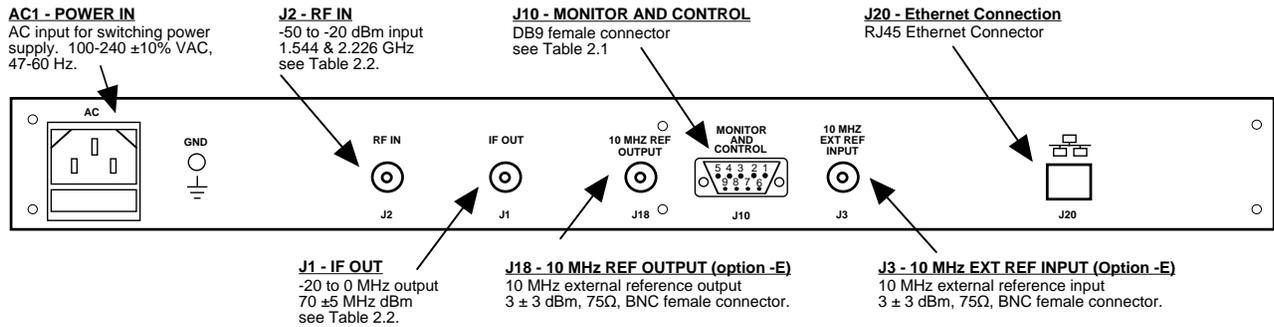

FIGURE 2.2 2016-1522# Rear Panel I/Os
Figure 2.2 shows the input and output connectors on the rear panel.
1. Connect a -50 dBm to -20 dBm signal to RF IN, J2 (Figure 2.2).